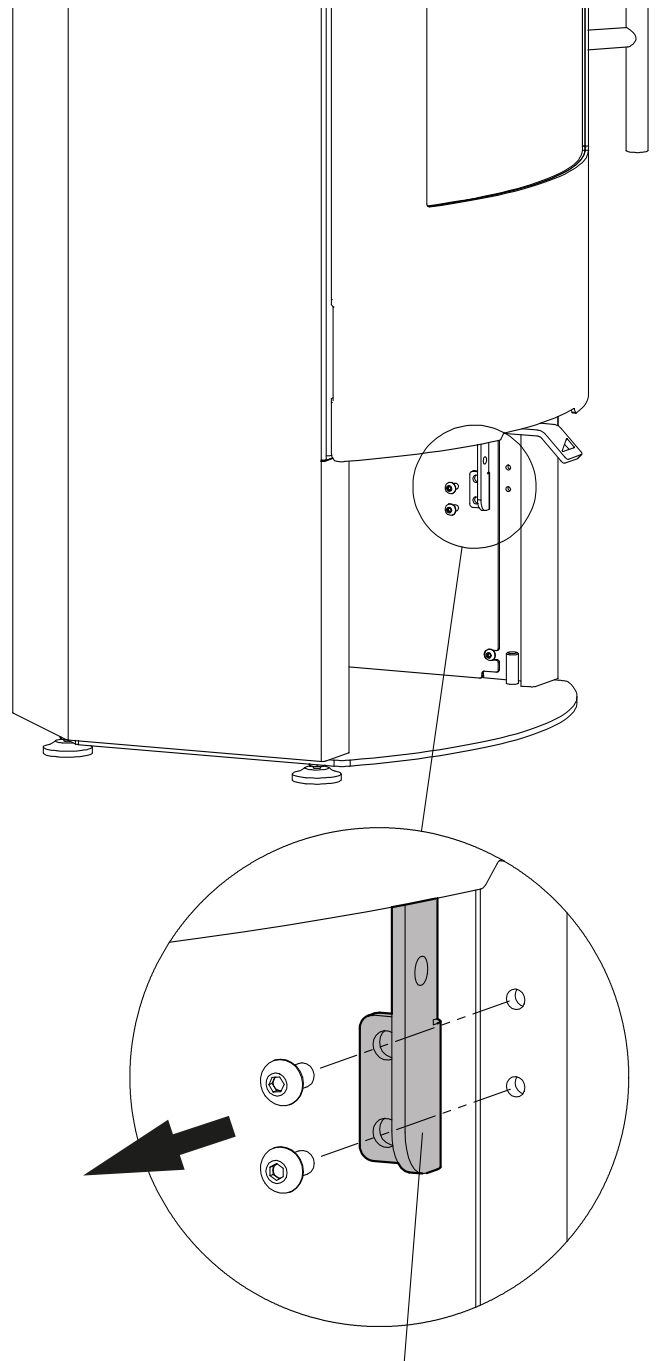

Fig.13
- Unscrew the supporting plate (13) for electronics on the right side in the wood storage compartment (Fig.13).